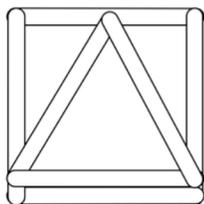

Figure 2
6. If the shapes are not broken, glue the triangle on the square and repeat top and side forces. See Figure 2 for example. If shapes are broken, recreate new shapes if time and materials allow.